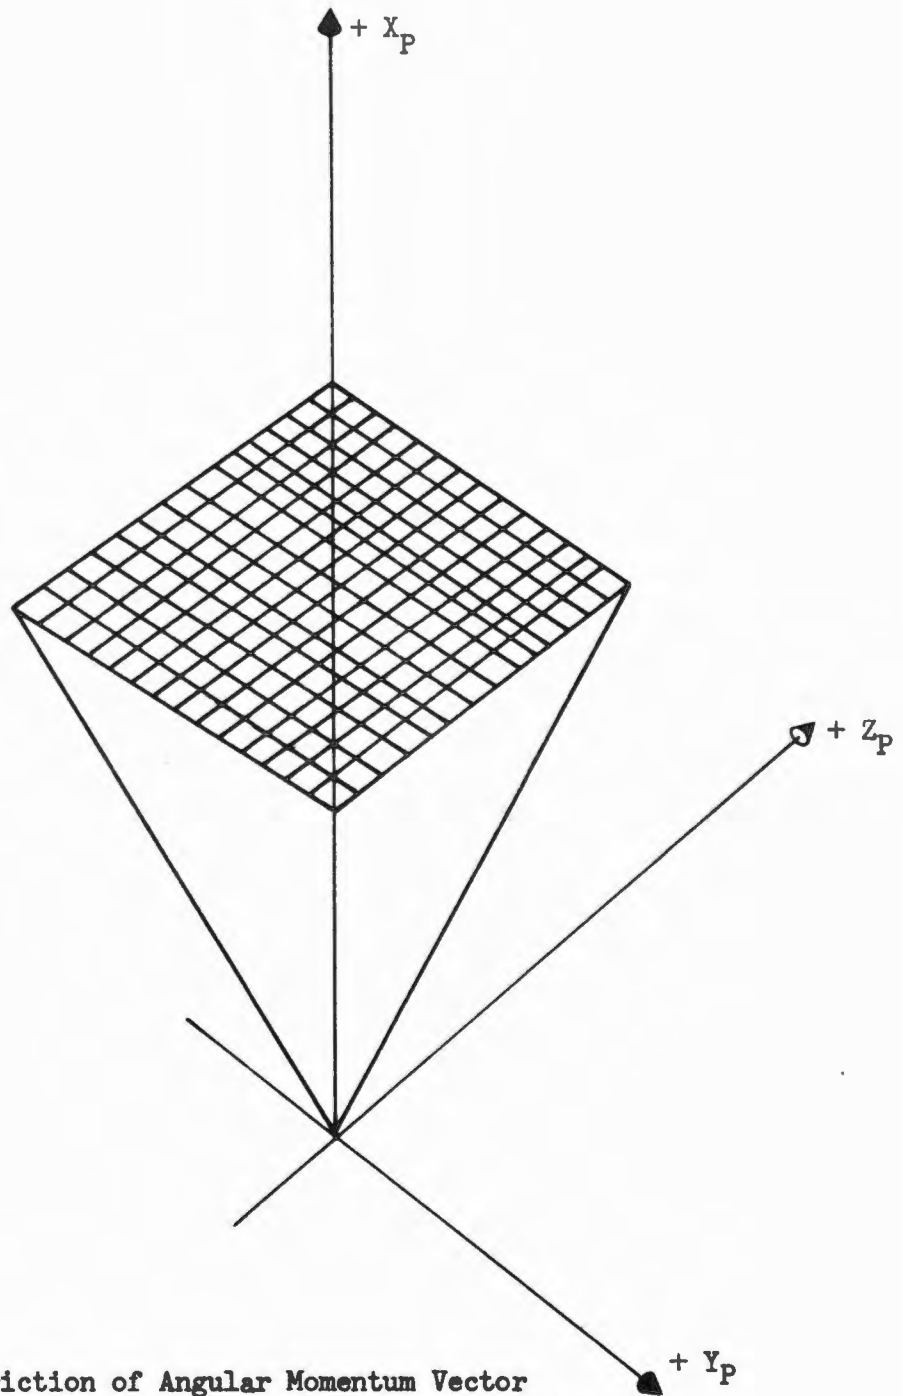

Figure 5-6. Restriction of Angular Momentum Vector Location Through Rate Direction Constraint
5.1.2.3.1 If the sense of ω_θ and ω_ψ are known, the general case location of X_I will be constrained to be in a single quadrant as shown in Figure 5-6. The sense of ω_θ and ω_ψ can be determined by observing the direction of motion of the pitch and yaw attitude error indicators. By picking specific senses for ω_θ and ω_ψ , a specific quadrant for the location of X_I can be established. A negative (moving down) pitch indicator motion and a negative (moving left) yaw indicator will limit the location of X_I to the +Y -Z quadrant. This is the quadrant that also contains X_p .